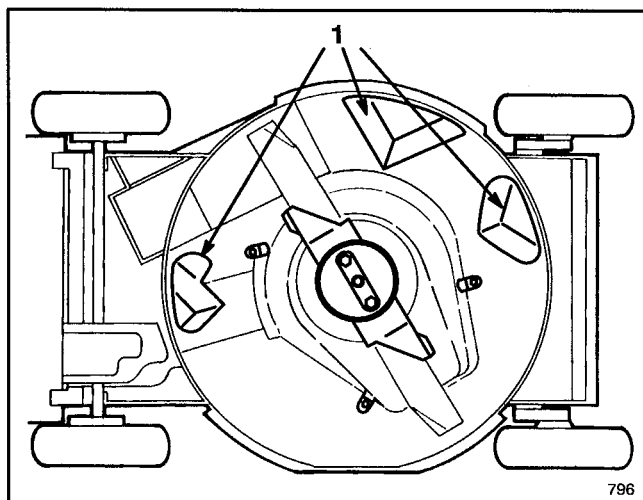

Figure 32
Keep underside of mower housing clean. Be especially careful to keep kickers free of debris (Fig. 32).
3. Tip mower on its left side (Fig. 32).